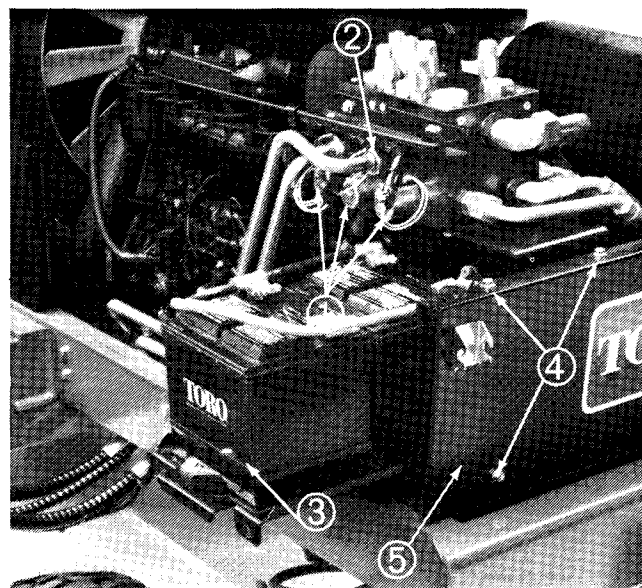

Figure 33
9. Starting at PTO solenoids, disconnect all wiring harness connectors, ground straps, cables and clamps from engine, brackets and hydraulic PTO manifold block (Fig. 33). Pull wiring harness out from right side of engine.
10. Remove two (2) capscrews and pull battery tray out (Fig. 33). Disconnect cables from batteries.
11. Remove six (6) capscrews and remove rear panel (Fig. 33).